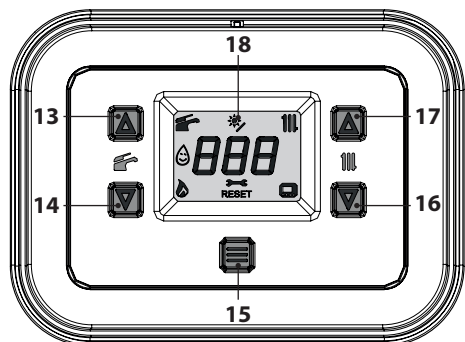
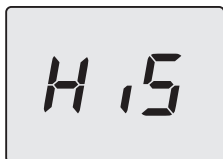
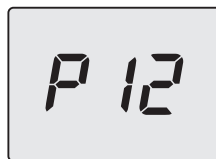
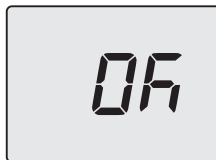

Figure 5.41
Figure 5.42
Figure 5.45
Figure 5.46
- Enter “programming mode” by pressing the 14 and 16 buttons simultaneously for 5 seconds (Figure 5.41) until **HiS** (in reference to the “Boiler History” menu) appears on the LCD display (Figure 5.42).
- Press the 15 button for 1 second (Figure 5.41) to open the selected parameter. The display will show the following (Figure 5.45).
- Press button 15 (Figure 5.41) to confirm the value entered. The display will show the following (Figure 5.46) for 5 seconds, then move up to the next level.
- Press the keys 14 and 16 simultaneously (Figure 5.41) to exit the level without changing the value (return to the previous level).
- press the 14 and 16 keys simultaneously for 5 seconds (Figure 5.41) (return to previous level).